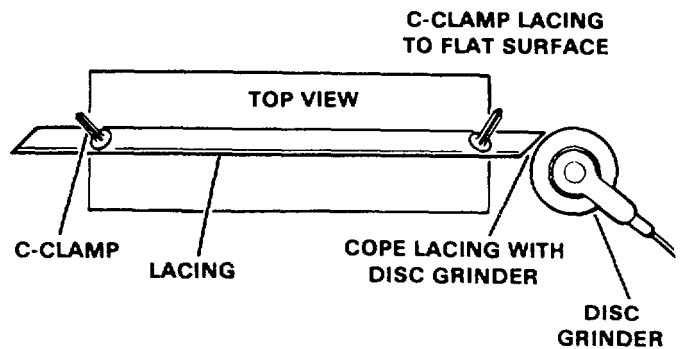

Figure 14-10. Coping Lacing with Disc Grinder
5. Cope the lacing as shown in Figure 14-10. Carefully contour fit the ends of the replacement lacing so that it fits within 1/16 inch (1.6 mm) all around the joint and a slight
drive fit is required to align the lacing in its proper location. See Figure 14-10. This fitting is very important as excessive openings will result in greater weld metal deposit, excessive heat buildup which can materially weaken the joint and also result in very undesirable distortion and locked up stresses. Weld sizes required to attach the lacings to the chords can be determined by looking at the previous welds on the other unaffected joints on the boom. These will usually be from 1/8 to 3/16 inch (3.2 to 4.8 mm) leg size. It is extremely important that this fit and weld size be maintained so as not to induce an unbalance of weld shrinkage and locked up stresses.